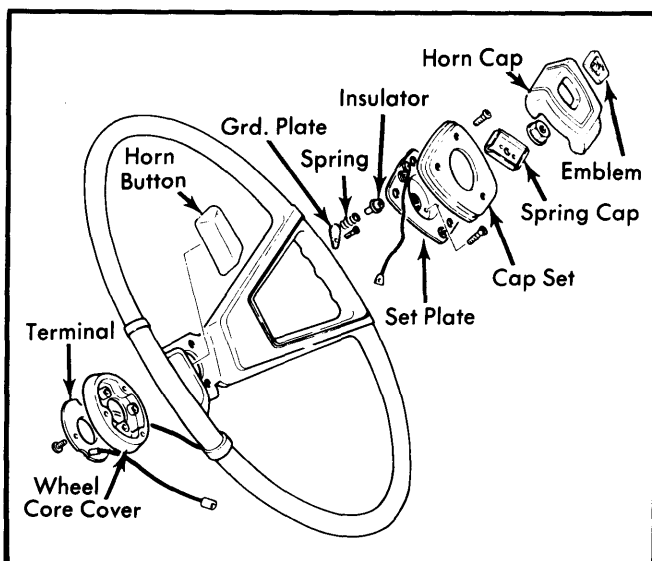

Fig. 1 Typical Mazda Steering Wheel Assembly
3) Unscrew steering wheel retaining nut and use a puller to remove steering wheel from column shaft. Steering wheel horn components may now be disassembled if necessary (Fig. 1).